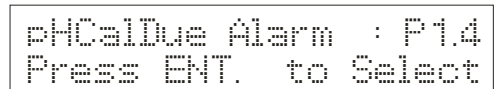

Figure 91
2. Use  $\Delta/MI$  to scroll to program *pHCalDue Alarm: P1.4*. See **Figure 91**.